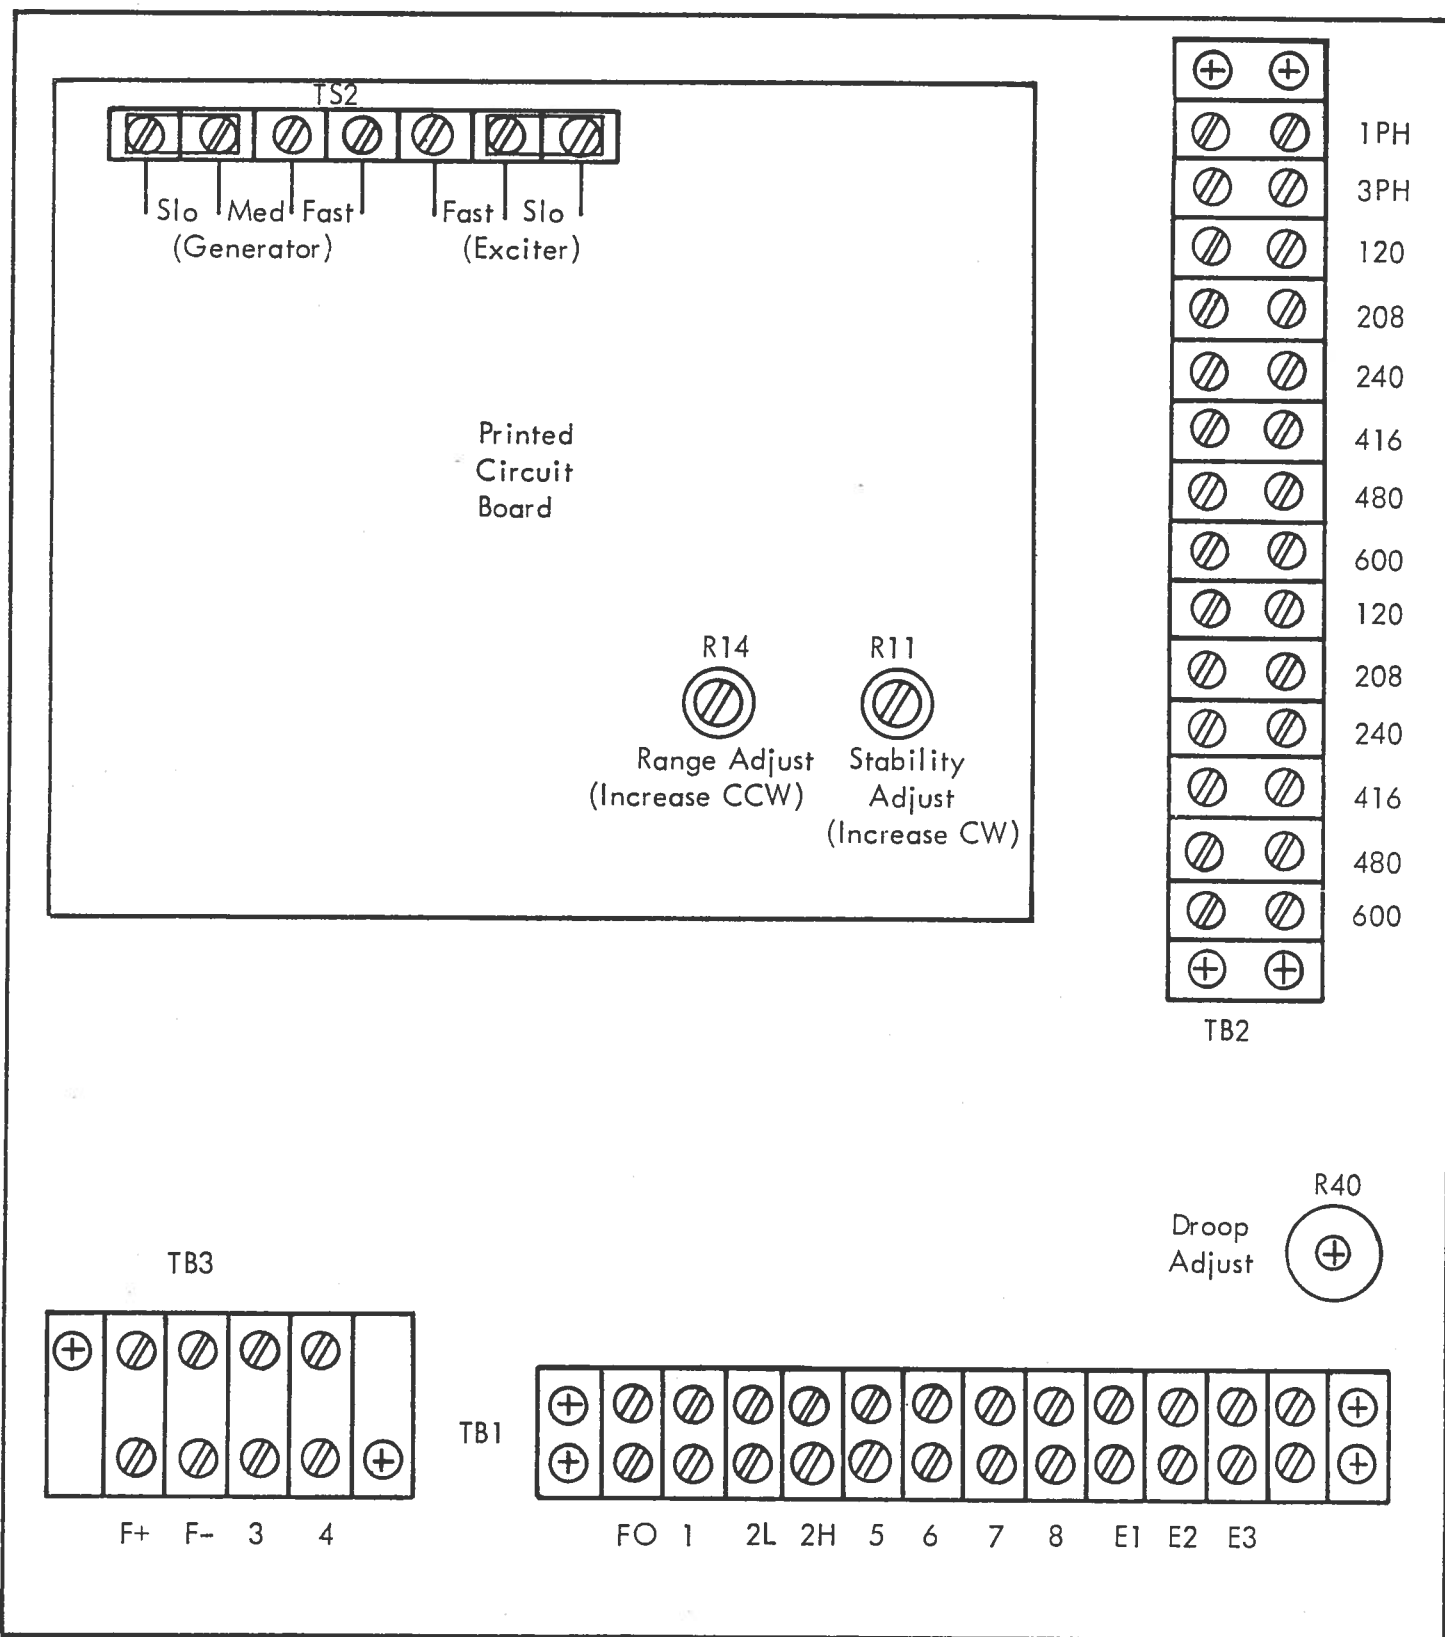

Figure 3-1 Location of Controls, Terminals and Adjustments
3.1 CONTROLS (Refer to Figure 3-1)
3.2 TERMINAL SELECTIONS (Refer to Figure 3-1).
The regulator single phase sensing terminals are E1 and E3. Three phase sensing terminals are E1, E2 and E3. The PH wire is connected to the 1PH terminal (TB2) for single phase sensing and to the 3PH terminal (TB2) for three phase sensing. The regulator is factory connected for single phase 120 Vac sensing. Internal sensing transformers have provisions for sensing 120, 208, 240, 416, 480 and 600 VAC. The transformers are factory connected to the 120 volt tap and must be reconnected to another tap before operation if other than 120 volt sensing is employed. On generating systems with voltages above 600 VAC, instrument type potential transformers must be used to step down the voltage to match one of the regulator sensing voltages. Figure 3-1 shows the sensing terminal board (TB2) location and the voltage tap identification.
Stability selection is accomplished on terminal strip TS2 located on the printed circuit board. With these connections, the regulator's two basic stability time constants can be changed. These are "exciter" time constant and "generator" time constant. The "exciter" time constant can be changed to 'fast' or 'slow'. The "generator" time constant can be changed to 'fast', 'medium', or 'slow'. Each time constant operates in conjunction with the stability adjust potentiometer R11 to provide a wide range of stability adjustment. The stability time constants provided allows operation on applications consisting of brush type rotary exciters, brushless rotary exciters or static exciters operating directly into a generator field. These circuits are designed to provide system voltage stability for power generator systems ranging from 10KW to 10,000KW. The following chart is provided as a guide to proper connection for various generator systems. Variance from these recommended connections is acceptable and desirable if optimum system voltage stability results. Refer to Figure 3-1 for location of jumpers.
3.3 OTHER ADJUSTMENTS (Refer to Figure 3-1)